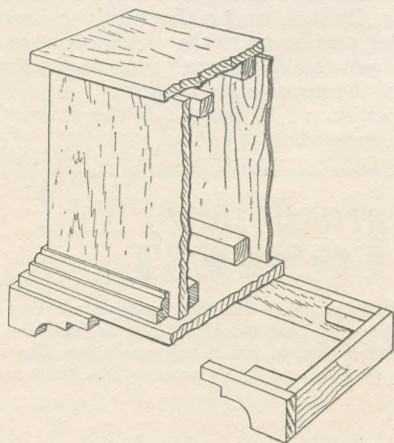

Fig. 1—The lowest case in broken section
Take the floor A as a foundation, and build upon it the upright pieces A, B, C and D. The two sides (C) stand behind the front (B) and the plywood back (D) comes between them. It is best to have some in. square deal in strips in order to cut off odd lengths of 2 or 3 ins. to form strengthening blocks which can be put inside the angles to stiffen the whole thing up. A cut-away view of this lower box is given at Fig. 1.
Raising this base we have strip feet $\frac{3}{4}$ in. thick and 1 $\frac{1}{2}$ ins. wide. The back and two side portions are plain pieces of wood. The front ones are short strips with fancy ends. To make the appearance of a further member, these feet portions are glued with a slight projection beyond the actual base. There is about $\frac{1}{4}$ in. all the way round, and this can be seen also in Fig. 1.